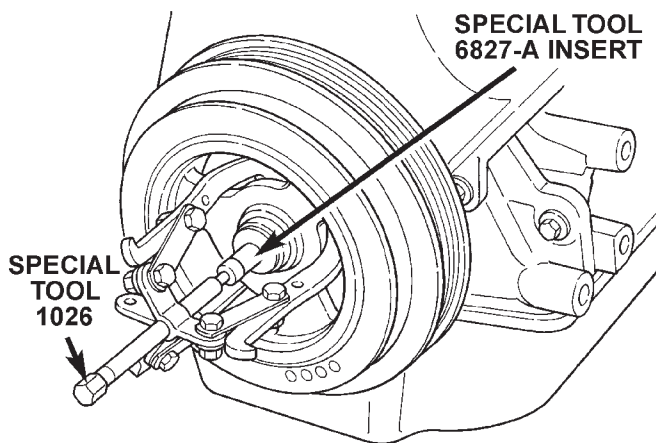

Fig. 83 Crankshaft Damper—Removal
(1) Remove accessory drive belts. Refer to Group 7, Cooling System for procedure outlined in that section.
(2) Remove crankshaft damper bolt. Remove damper using the large side of Special Tool 1026 and insert 6827-A (Fig. 83).